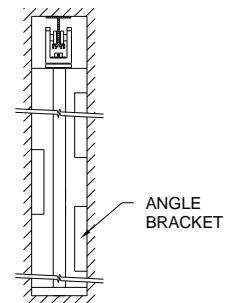

Fig. 6-3
- **A pocket/plater channel:** Slide this channel into the pocket. Attach the four angle brackets that are provided at alternating heights on both sides of the pocket, equal distance apart and flush with the front edge of the pocket. (Fig. 6-3)